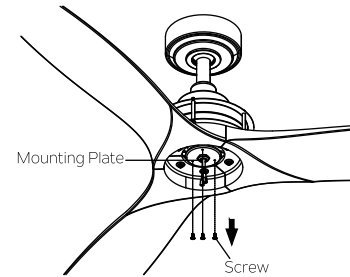

Fig. 18
**Step 1.** Remove the three mounting screws preinstalled on mounting plate and keep for later use. (Fig. 18)